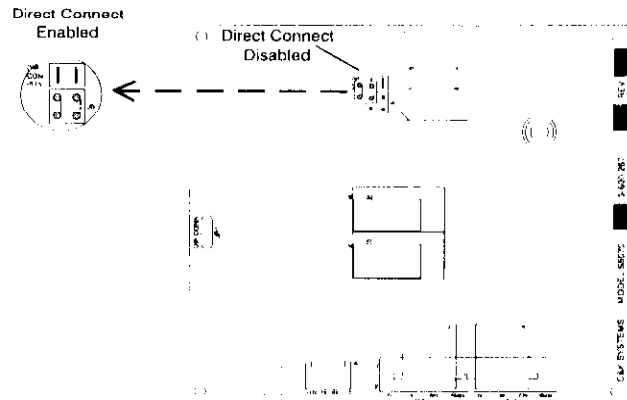

Figure 14
2. Move the jumper (J6) to the enabled position, as shown in Figure 14, above right.
4. Enable the Direct Connect jumper (see Figure 14) and initiate the Direct Connect function in Commander II. When you hear the modem tones, momentarily short the Direct Connect pads located on the left-hand side of the digital communicator PCB. You should hear the seize relay energize to indicate connection.